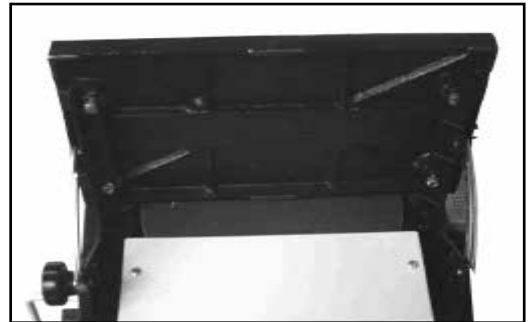

Fig. 05
4. Place the table onto table support; align the four screws which are preassembled under the table with the holes of table support. (See Fig. 05)